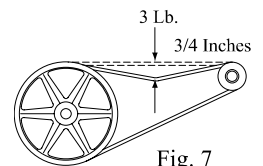

Fig. 7
- **Check belt tension.** A 3 lb. force should deflect the belt 3/4 inches (see Fig. 7). Readjust belt if needed.